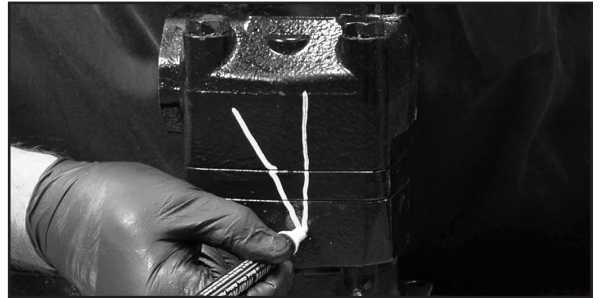

Figure 2
**WARNING** If the motor is not firmly held in the vise it could be dislodged during the service procedures, causing injury. (Figure 2)